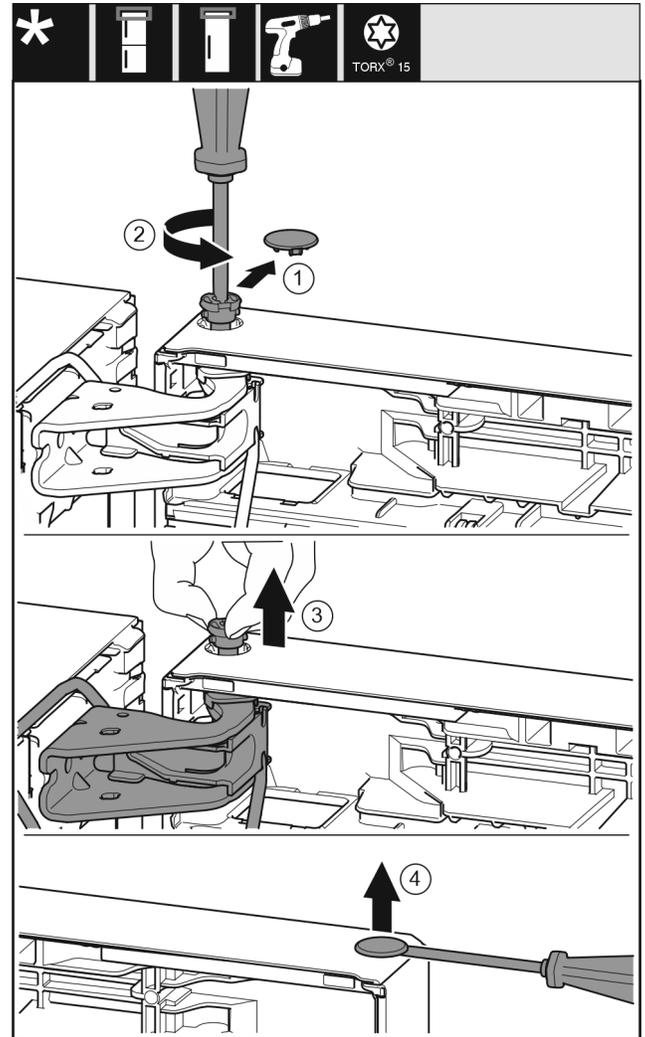

Fig. 20
- ▶ Carefully remove the protective cover. *Fig. 20 (1)*
- ▶ Loosen the bolts slightly with a T15 screwdriver. *Fig. 20 (2)*
- ▶ Hold the door and remove the bolts with your fingers. *Fig. 20 (3)*
- ▶ Carefully lift the plugs out of the door bearing bush with a slotted screwdriver and remove them. *Fig. 20 (4)*